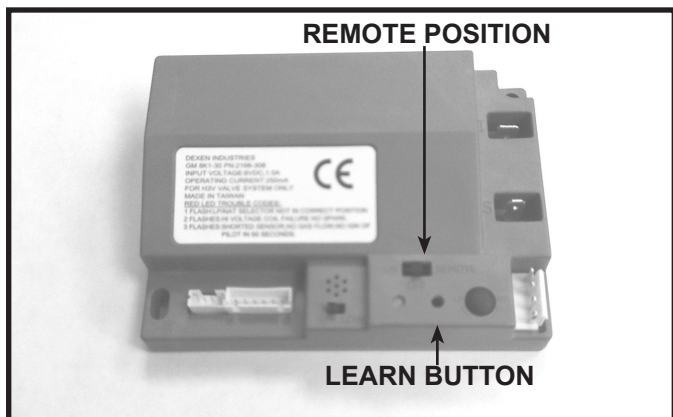

Figure 3.12 Programming RC300AU
- Using a small item (such as a paper clip) press and release the LEARN button located near the ON/OFF/REMOTE switch. See Figure 3.12.